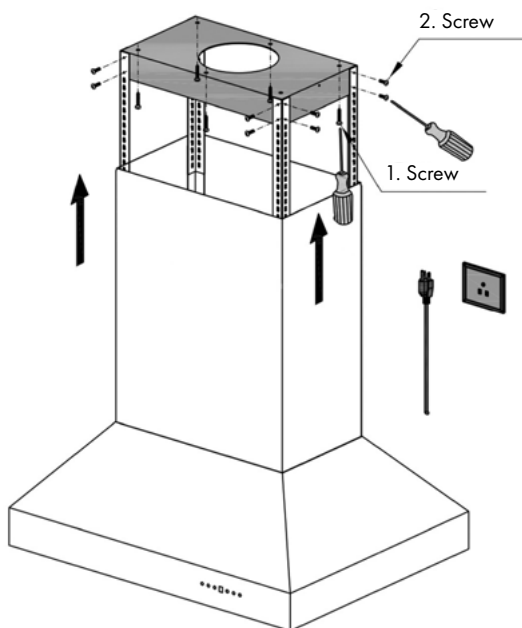

Figure 4
1. Slide chimney pieces over the angle iron on the hood. Pull the electrical plug to the top of the chimney sections. *Figure 4*